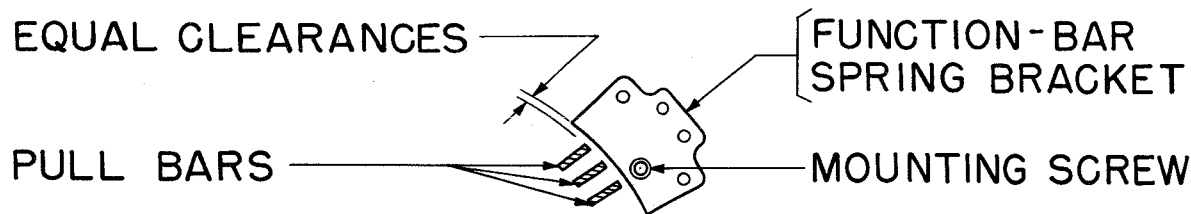

Figure 4
2.09 Pullbars Supported by Function-bar-spring Brackets shall be free, without bind, and shall have approximately equal clearance between the corresponding edges of the function-bar-spring brackets. See Figure 4.